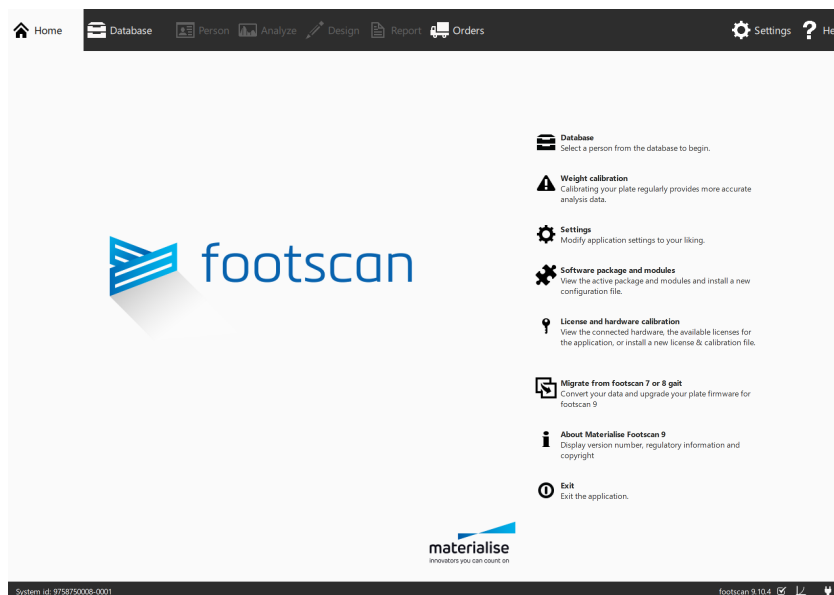

Figure 7: The software package and modules dialog can be opened in the home screen.
2. By clicking the  Software package and modules button in the Homescreen (Figure 7). More information about the home screen can be found in section 6.